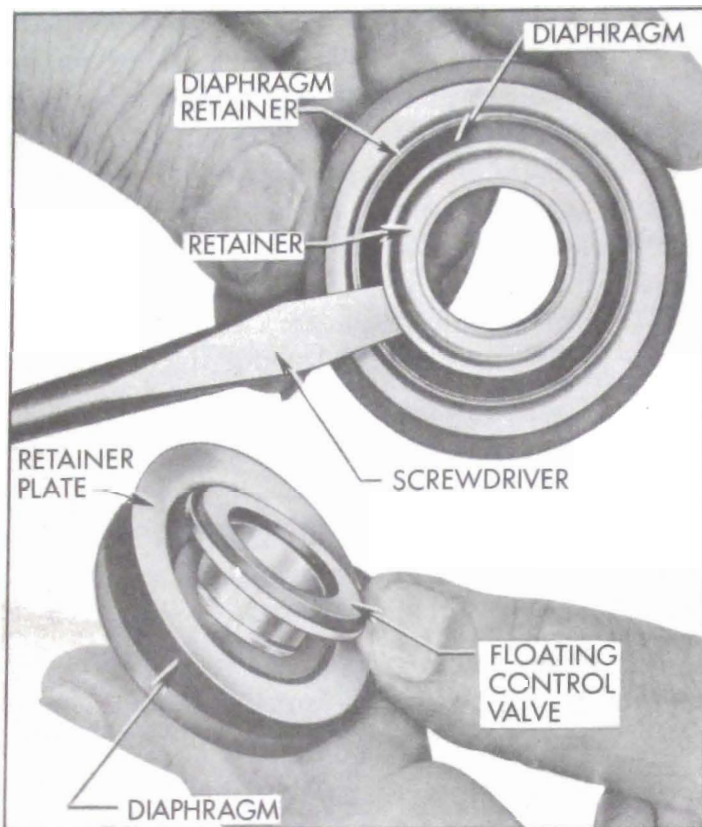
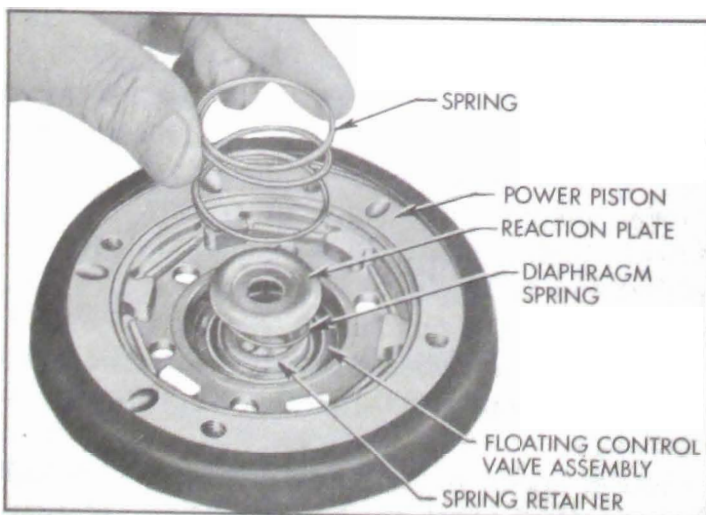

Figure 9-19—Floating Control Valve and Diaphragm Assembly
**Figure 9-22—Installing Floating Control Valve and Diaphragm Assembly**
16. Remove floating control valve assembly from power piston and disassemble as follows: With small screwdriver, pry retainer off diaphragm, then push floating control valve through diaphragm. See figure 9-19. This frees retainer plate in the process. Pull diaphragm from diaphragm retainer. This completes disassembly of the power piston assembly.
6. To assemble floating valve assembly, press flat side of diaphragm retainer into diaphragm. See figure 9-19. Hold flat side of plate against flat side of diaphragm while pressing floating control valve into center hole of diaphragm. Use thumbs to stretch diaphragm over hub of floating control valve, then press spring retainer over valve hub and diaphragm lip. Lubricate O.D. of floating valve with Dynaflo oil and press into place in power piston with rubber face of floating control valve facing in. See figure 9-22.